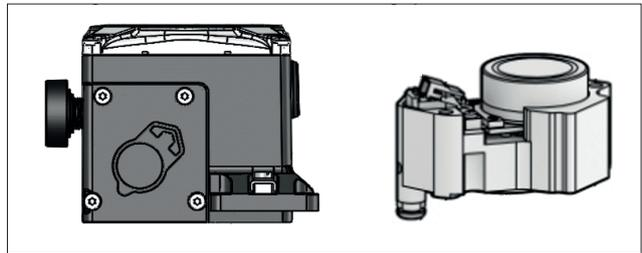

Fig. 90. NDX1510_ prestage location.
- under prestage cover with prestage symbol (Fig. 90)